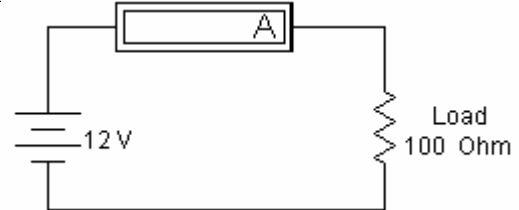

Fig.2 Measurement of current
- For **Current** connect the leads of Multimeter in series with Load as shown in fig 2